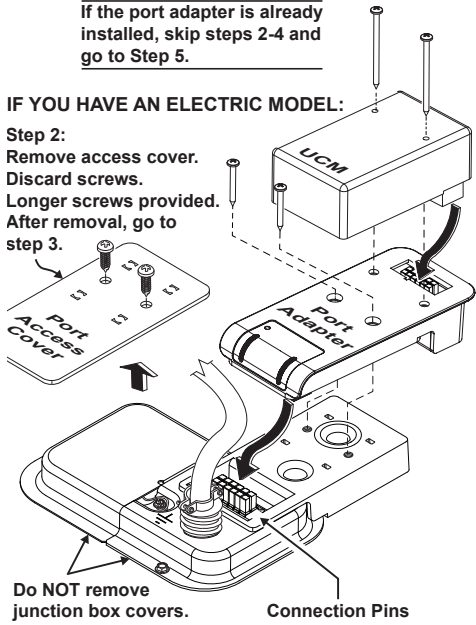
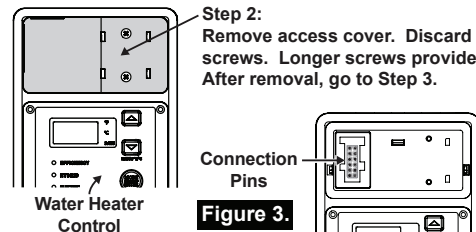

Figure 2.
Figure 3.
- Step 3: Plug the port adapter into the water heater at its connection pins. See Figure 2 or Figure 3.
- Step 4: Secure the port adapter with the new screws (2). The new screws are provided. See Figure 2.
- Step 6: Plug the UCM into the port adapter. See Figure 2. Also, refer to your UCM user manual for any additional instructions.
- NOTE: The size and shape of your UCM may vary from what is shown in Figure 2.*
- Step 7: Secure the UCM to the port adapter with screws (2). Screws are provided with the UCM. See Figure 2.